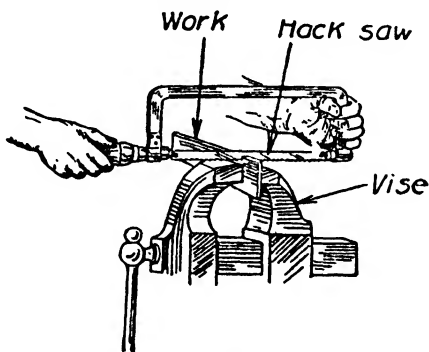

FIG. 56
4. Grasp the handle of the hack-saw with the right hand, the left hand holding the opposite end of the frame. Fig. 56.